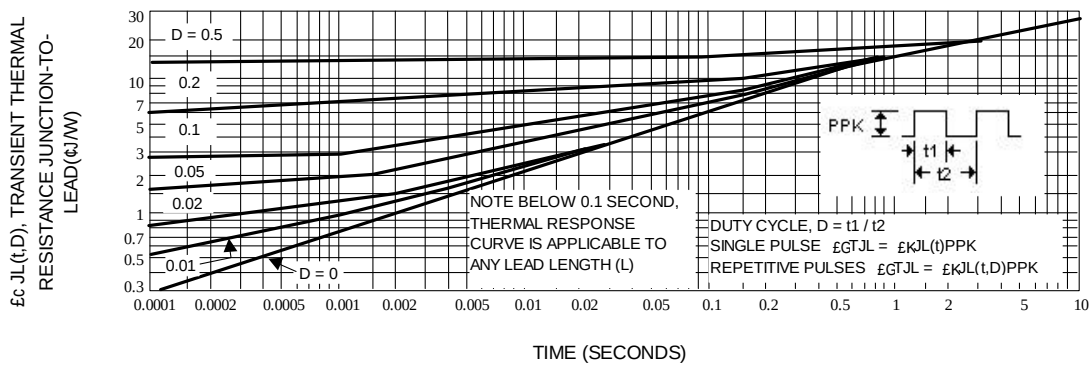
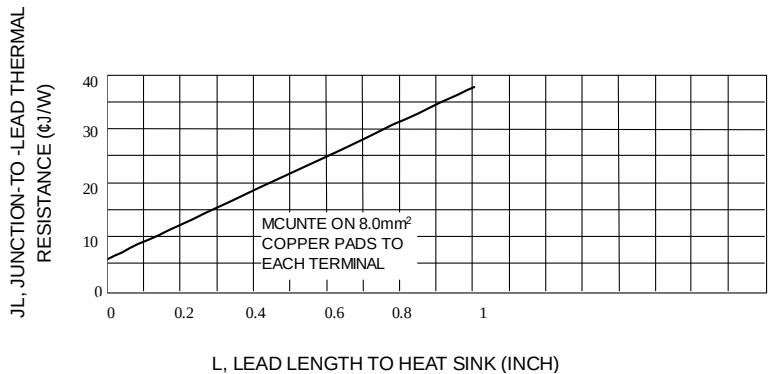
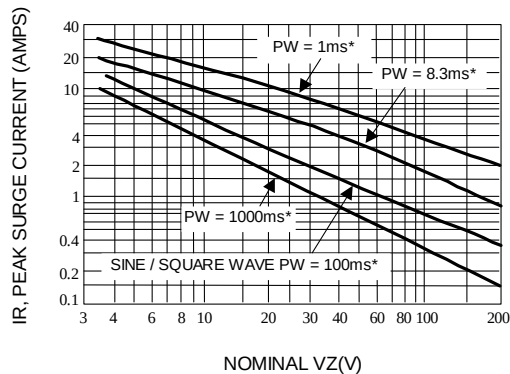
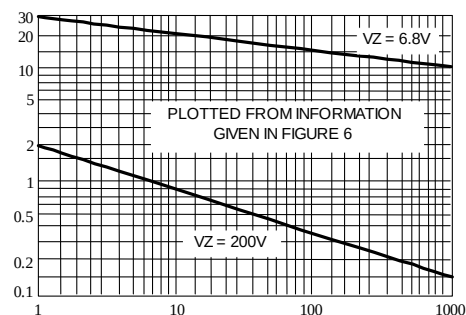

Fig. 3-TYPICAL THERMAL RESPONSE
Fig. 4-TYPICAL THERMAL RESISTANCE
Fig. 5-MAXIMUM NON-REPETITIVE SURGE CURRENT VERSUS NOMINAL ZENER VOLTAGE (SEE NOTE 3)
Fig. 6-PEAK SURGE CURRENT VERSUS PULSE WIDTH(SEE NOTE 3)
3. SURGE CURRENT (I_r) - Surge current is specified as the maximum allowable peak, non-recurrent square-wave current with a pulse width, PW, of 8.3 ms. The data given in Figure 5 may be used to find the maximum surge current for a square wave of any pulse width between 1 ms and 1000ms by plotting the applicable points on logarithmic paper. Examples of this, using the 6.8v and 200V zeners, are shown in Figure 6. Mounting contact located as specified in Note 3. ($T_A=25 \text{ }^\circ\text{C}$).
ΔT_{JL} is the increase in junction temperature above the lead temperature and may be found from Figure 3 for a train of power pulses or from Figure 4 for dc power.
Data of Figure 3 should not be used to compute surge capability. Surge limitations are given in Figure 5. They are lower than would be expected by considering only junction temperature, as current crowding effects cause temperatures to be extremely high in small spots resulting in device degradation should the limits of Figure 5 be exceeded.
*** Data of Figure 3 should not be used to compute surge capability. Surge limitations are given in Figure 5. They are lower than would be expected by considering only junction temperature, as current crowding effects cause temperatures to be extremely high in small spots resulting in device degradation should the limits of Figure. 5 be exceeded